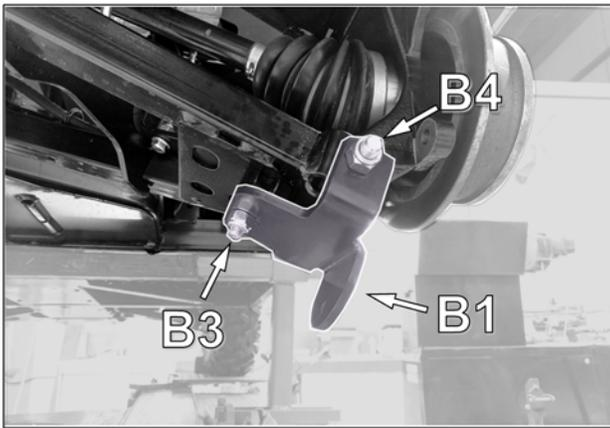

Fig. 4
- Position anchor bracket (B1) under lower suspension arm. Insert new M12x170mm bolt (B4) through anchor bracket, lower suspension arm and wheel knuckle. See Fig. 4